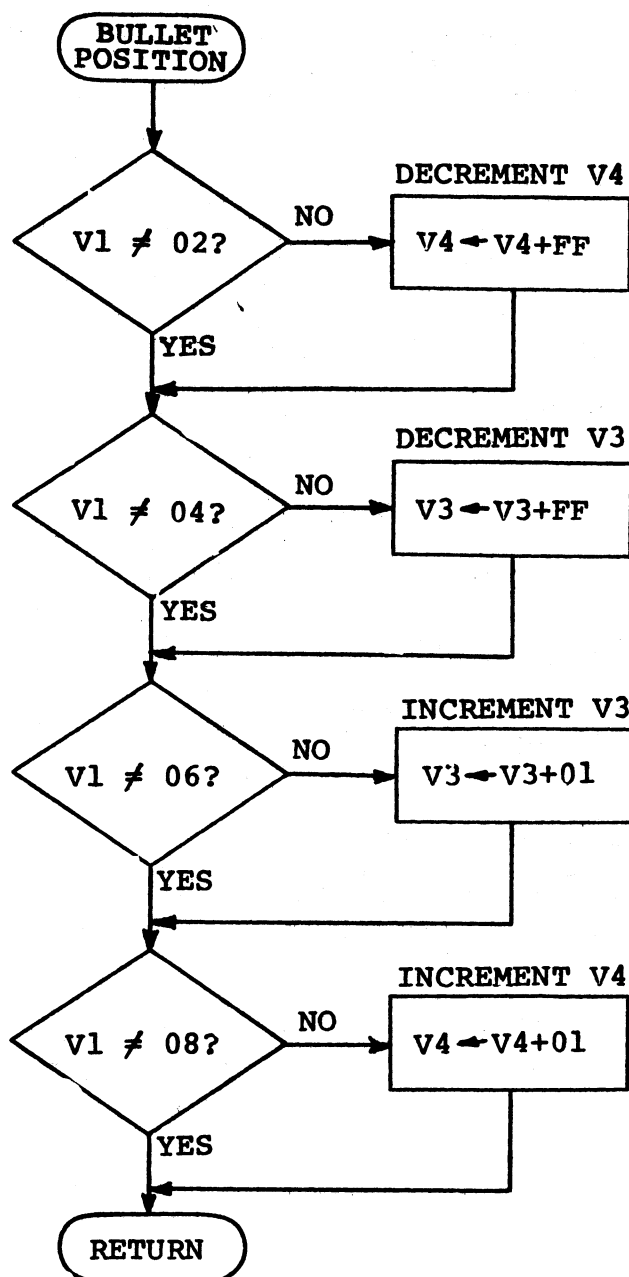

Figure 1. VIP flow chart illustrating use of the process, decision, and terminal symbols
Figure 1 shows the subroutine used for controlling the bullet position while in flight. The subroutine changes the screen location of the bullet (V3, V4) in accordance with whether key 2, 4, 6, or 8 was the last key depressed (which way the car was facing when the bullet was fired).